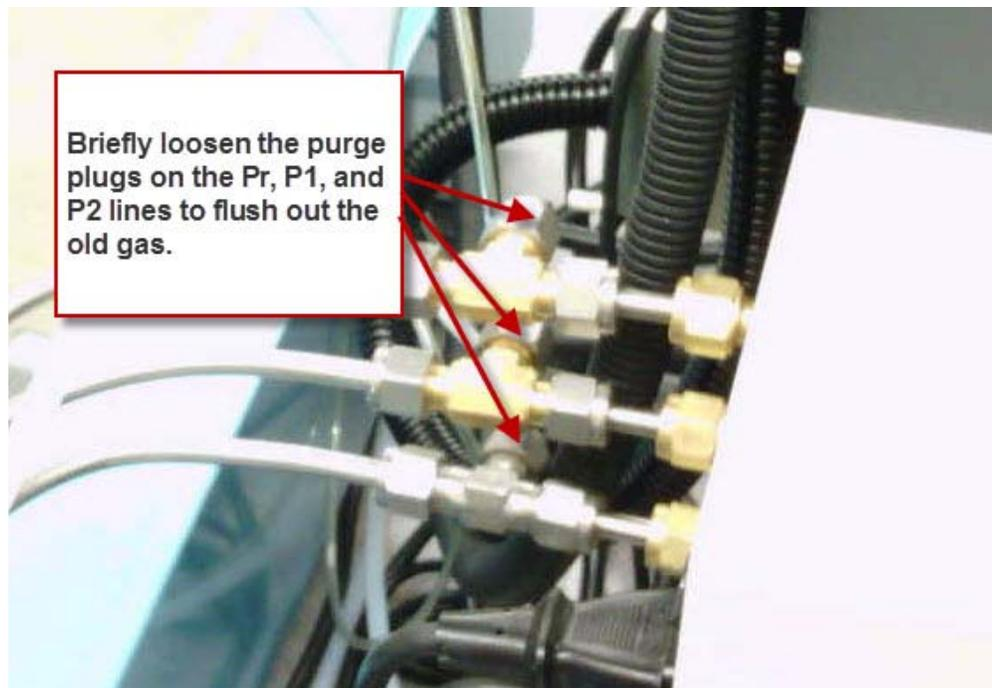

Figure 3
- Sequentially loosen the three purge plugs at the tee-s that connect Pr, P1, and P2 lines to the instrument. See Figure 3.